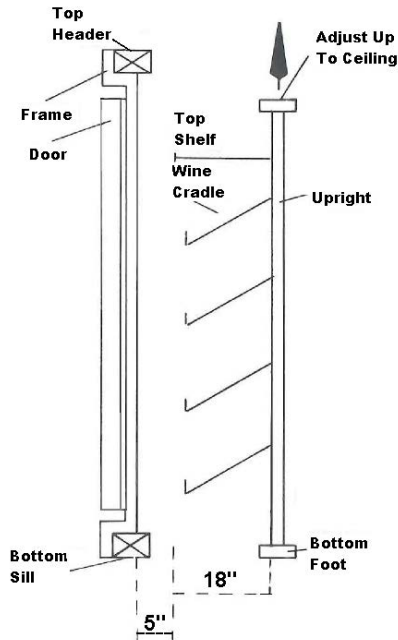

Figure 27
2. Overall depth of Wire-Vue assembly is 18". Refer to Figure 27